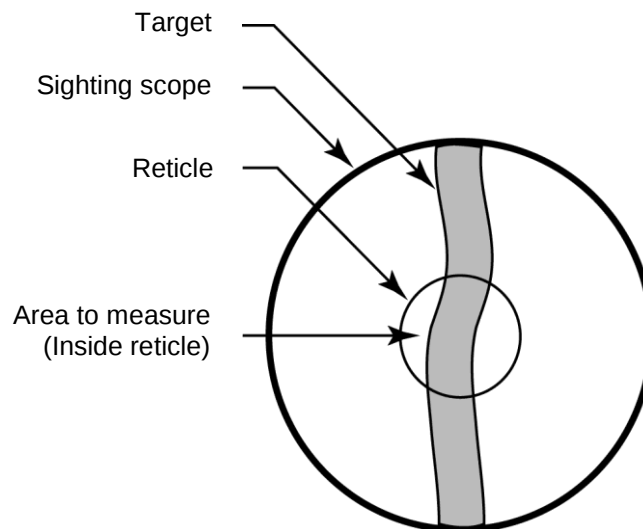

Figure 7: Sensor Eyepiece and Reticle
2. Look through the eyepiece and position the sensor so the target is centered as much as possible in the middle of the reticle, see Figure 7: Sensor Eyepiece and Reticle